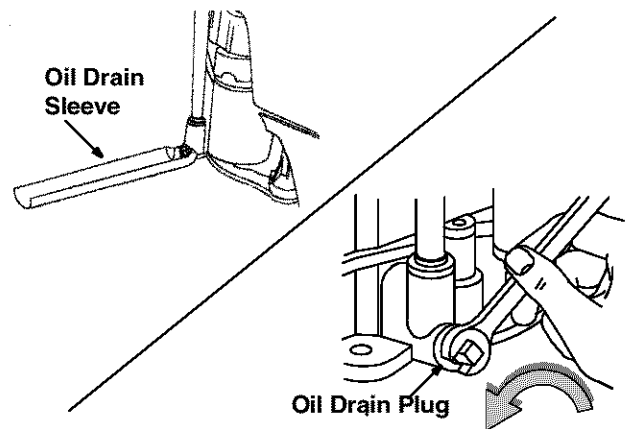

Figure 22
1. To drain the oil, snap small end of the oil drain sleeve onto oil sump. See Figure 22.
2. With engine off but still warm, remove drain plug as shown in Figure 22 and drain oil into a suitable container.